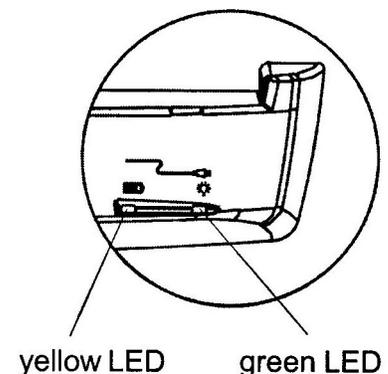

Fig. 6b
- Green light "ON" with battery pack inserted: indicates pack in the charger is fully charged and ready to use. (Fig. 6b)